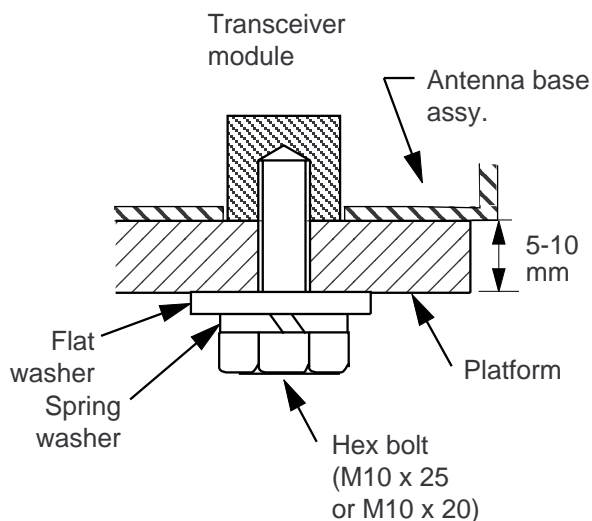

Figure 4 How to fasten the base to platform
3. Construct a platform (wood, steel, or aluminum) of 5–10 mm in thickness whose dimensions are as shown in Figure 4. Fasten the platform to the mounting location. Next, position the base so the cable entrance faces the stern direction and the vent tube is extending downward through the hole for the vent tube.